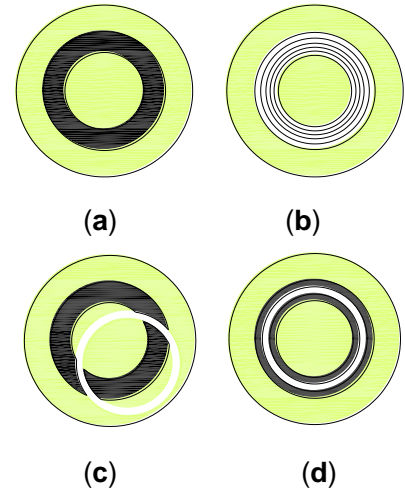

Fig. 20
- Observe from the telescope. The bright ring and dark ring should be coincided with each other as shown in **Fig. 20 (d)**.
- If the bright ring is still obscure as in **Fig. 20 (b)**, adjust the condenser focusing knob.
- If the two ring images are not coincided as shown in **Fig. 20 (c)**, adjust the two centering screws on the phase contrast condenser.